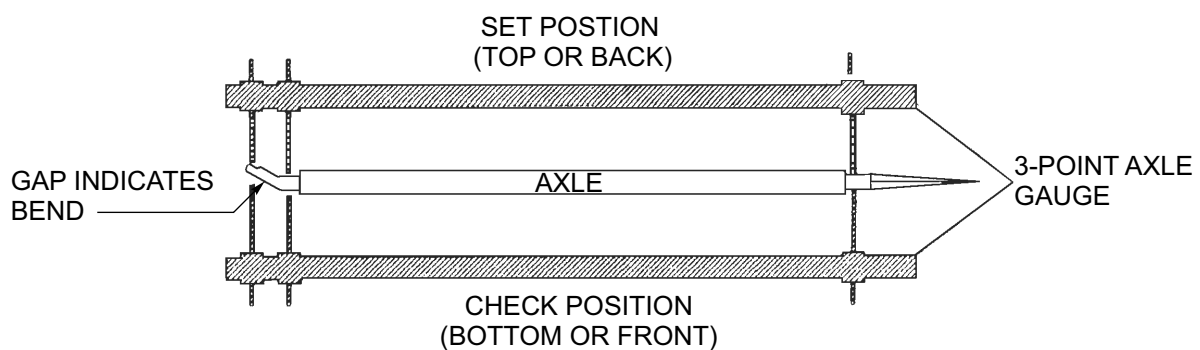

Figure 4-8: Checking Axle for Bend
2. Place a 3-point axle gauge against the front side of the axle, and adjust each axle gauge point to the axle. Double point end against the inner and outer wheel bearing surfaces of the spindle being checked and the other point on the inner bearing surface on the other spindle (*See Figure 4-8.*)
3. Move the axle gauge and place against the back side of the axle. If either of the points of double point end fails to touch the axle surface, a bent spindle is evident. A point gap of .015" or more is considered excessive tire "toe" and the axle must be replaced (*See Figure 4-8.*)